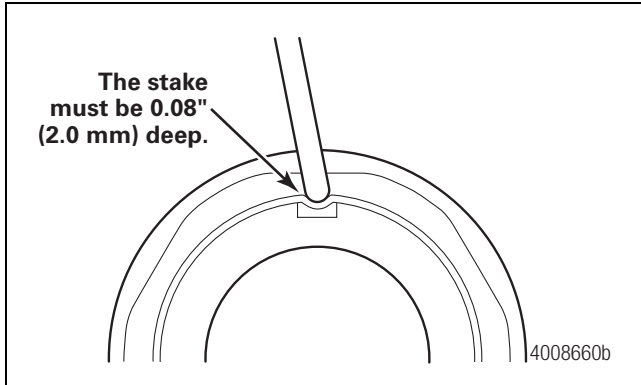

Figure 11.10
- E. Stake the nut by deforming the flange into the channel on the spindle at two locations 180 degrees apart. The stake must be 0.08-inch (2.0 mm) deep. Figure 11.10.